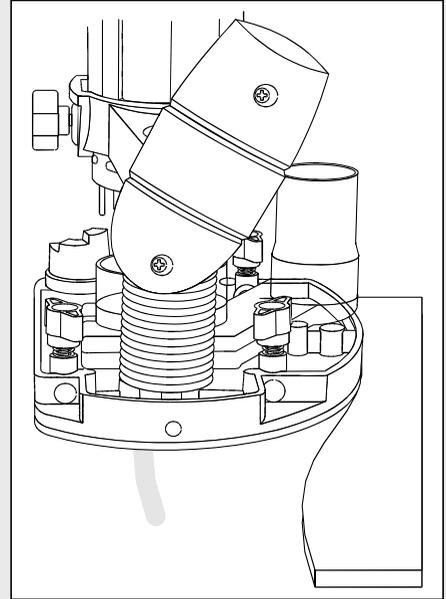

Fig. 21
1. Make a template from hardboard or other similar material to the shape you require (Fig. 21).